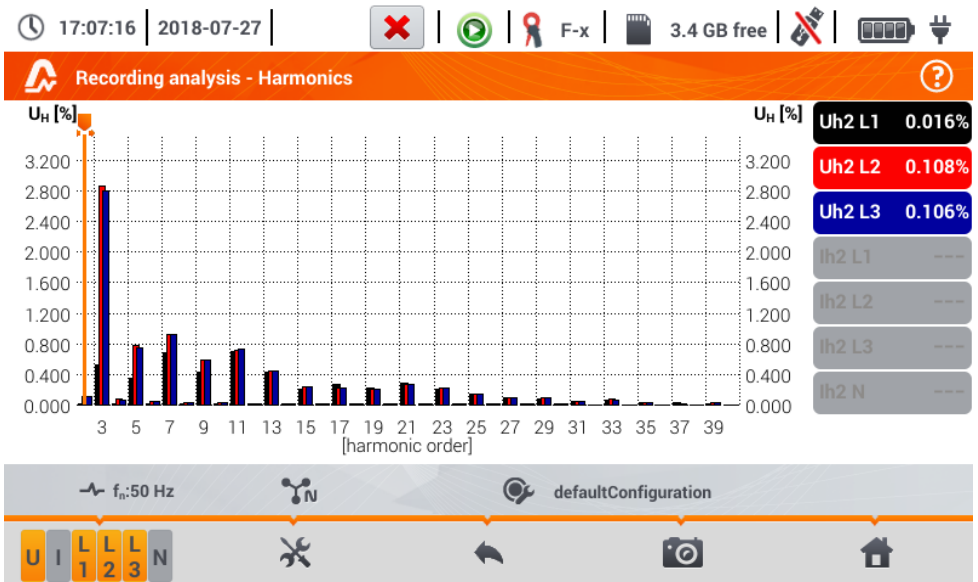

Fig. 5.23. Live mode - harmonics - bar graph
If in **section 5.8** step ③ the  icon has been selected, the screen shown in Fig. 5.23 will appear. The workspace consists of a graph, the labels menu and function icons menu. This screen allows you to view the harmonics of voltages and currents, angles between the current and voltage harmonics, $\cos\phi$ factors of these currents and THD factors. Harmonics are displayed graphically in a bar graph (default) or in a table.